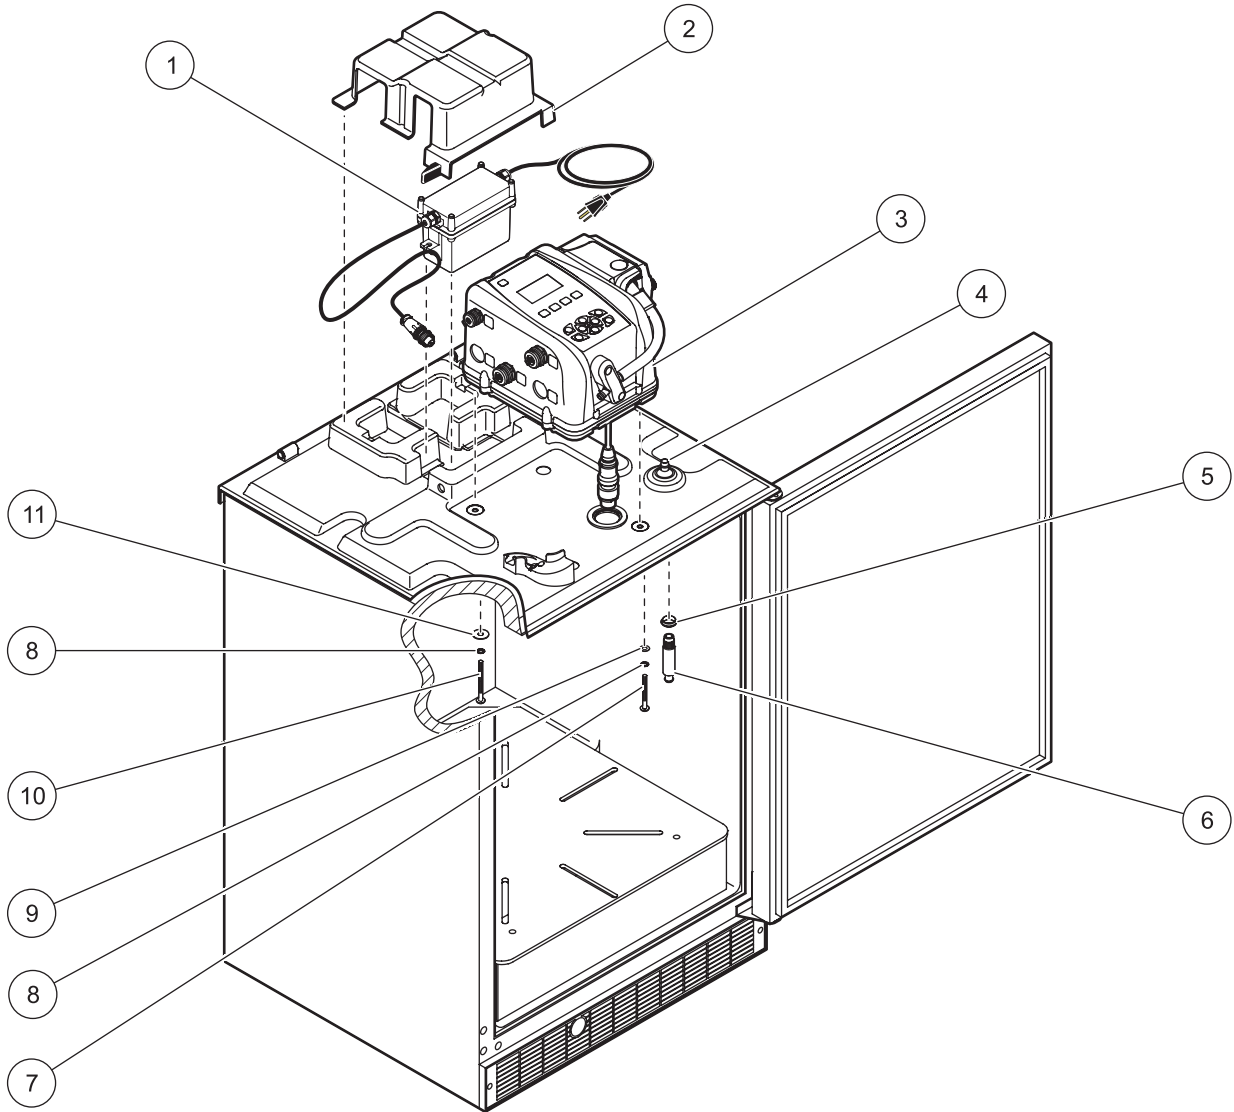

Figure 9 Component installation on refrigerated sampler
- a. Place a lock washer and flat washer on the 2½-inch screw. Insert the screw in the front mounting hole. Install a ¾-inch spacer on the screw between the refrigerator top and the transition plate. Push the screw through the spacer and tighten into the controller (Figure 9).
3. Insert the supplied grommet into the hole for the sample extension fitting on the inside of the refrigerator (Figure 9).
5. Place the power supply in the compartment behind the controller. Position the cover over the power supply and secure with the hold-down latches (Figure 9).